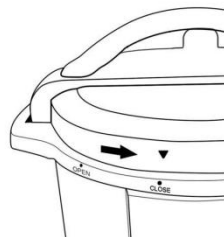

Figure 3
Please note the "OPEN" and "CLOSE" markings on the rim of the pressure cooker body (13) and the "▼" on the rim of the Lid (2). To properly close and secure the pressure cooker Lid (2), always line up the "CLOSE" marking on the Upper Ring (9) and the "▼" on the rim of the Lid (2) (Figure 3).